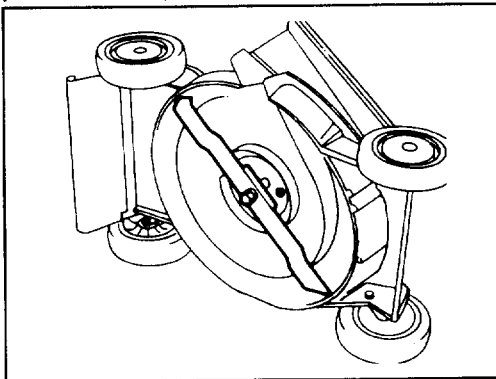

Figure 15
4. Tip mower on its left side (Fig. 15). Avoid rotating blade because starting problems may result.